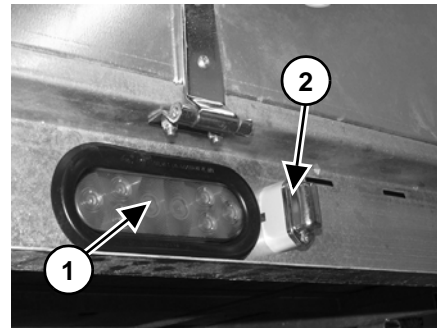

Figure 40
- Check both rear tail lights (Item 1) for proper operation. (both sides) **(Figure 40)**
- Check the license plate light (Item 2) to be on when the vehicle running lights are on. **(Figure 40)**